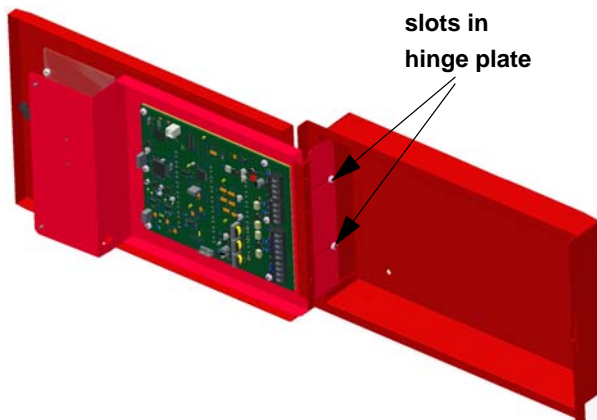

Figure 1.2 ECS-RPU Open 180°
3. Open the dead front panel 90 degrees and then pull the dead front forward. Tighten the two nuts. The dead front panel will be able to swing open 180°. Refer to Figure 1.2.